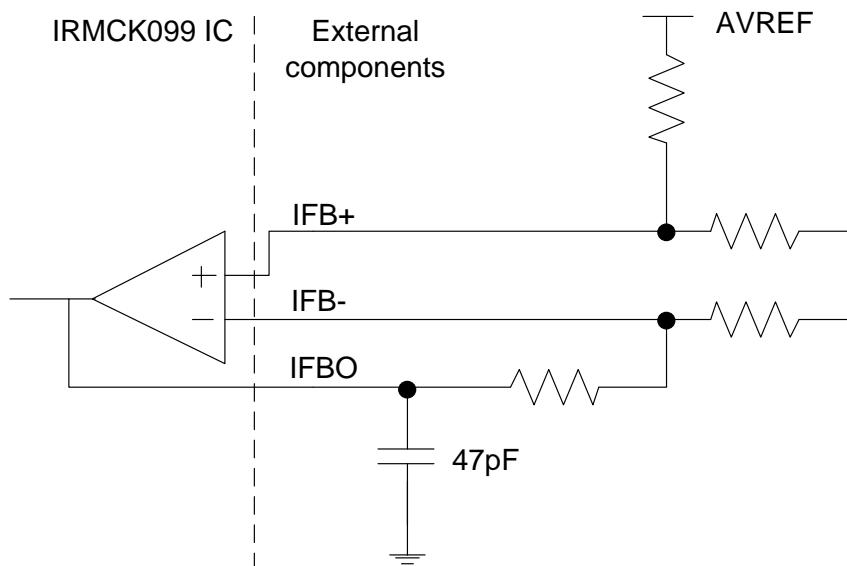

Figure 6. Op amp output capacitor
(1) Data guaranteed by design.
(2) To guarantee stability of the operational amplifier, it is recommended to load the output pin by a capacitor of 47pF, see Figure 6. Here only the single shunt current amplifier is shown but all op amp outputs should be loaded with this capacitor value.